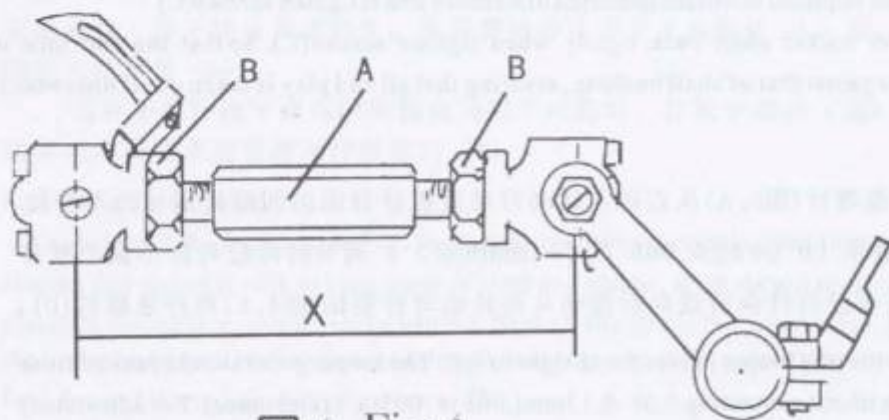
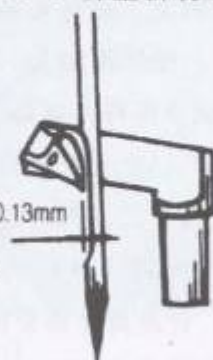

图4 Fig.4
图6 Fig.6
(一) 首先调节连接杆(图4, A),使两球轴承(X)中心线间距为69.8毫米( $2\frac{3}{4}$ 英寸),调节时拧松二个螺母(B),顺旋或倒旋连接杆(A)使(X)距离符合要求后再锁紧螺母。
(1). First set the looper connecting rod(A, Fig. 4), so the distance (X, Fig. 4) between the centerlines of the two ball joints is 69.8mm(1 3/4 in.). For adjustment loosen the two nuts(B) and turn connecting rod (A) forward or backward as required to obtain specified dimension. Retighten nuts(B). Caution: The left nut has a left hand thread.
(三) 继续转动皮带轮,使弯针(图5, A)从右向左运动时靠近机针背面的凹形处通过而不得接触,其间隙为0.08毫米-0.13毫米(0.003至0.005英寸)(图6所示)。调节时拧松弯针小偏心摇杆(图4, C)的螺钉(图4, D),按需要把弯针向前或向后摆动从而转动弯针架轴(图4, E)再拧紧螺钉(D)。
(3) Rotate the machine pulley so that the looper moves from right to left. The looper point should pass as close possible to the back of the needle without contacting 0.08 - 0.13mm (.003 to .005 in.) (clearance). For adjustment loosen screw(D, Fig. 4) in the looper eccentric fork (C) and turn rocker shaft (E) on the looper rocker with looper forward or backward as required. Retighten screw (D).